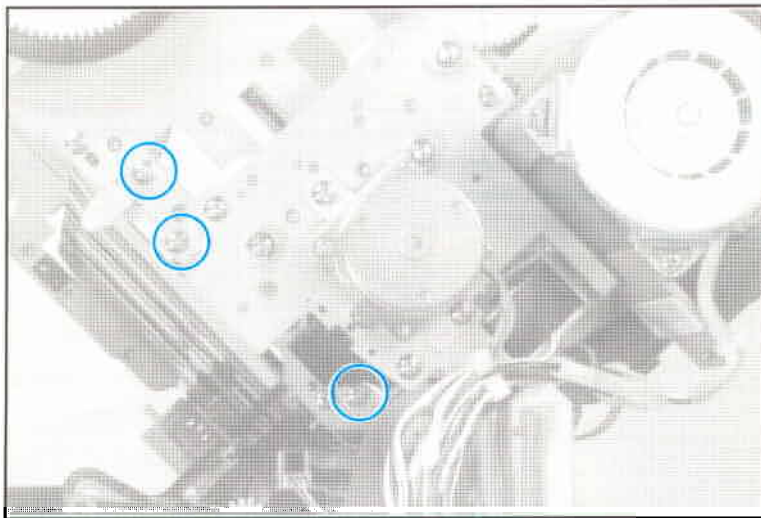

Figure 6-25 Lower Developer Drive Assembly Screws
3. Remove (2) screws which hold the sheet metal cover plate over the back of the Developer Drive assembly.
7. Remove (5) M3X4 Trushead screws that hold the Developer Drive assembly. (See Figure 6-25 and 6-26).